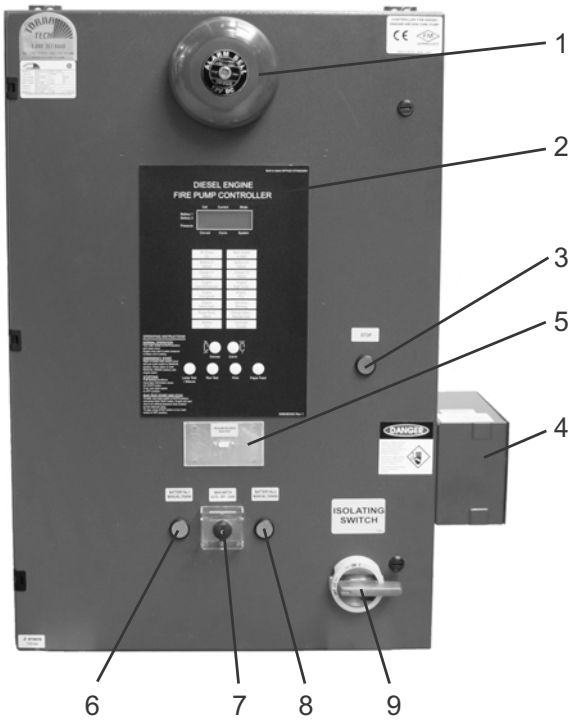
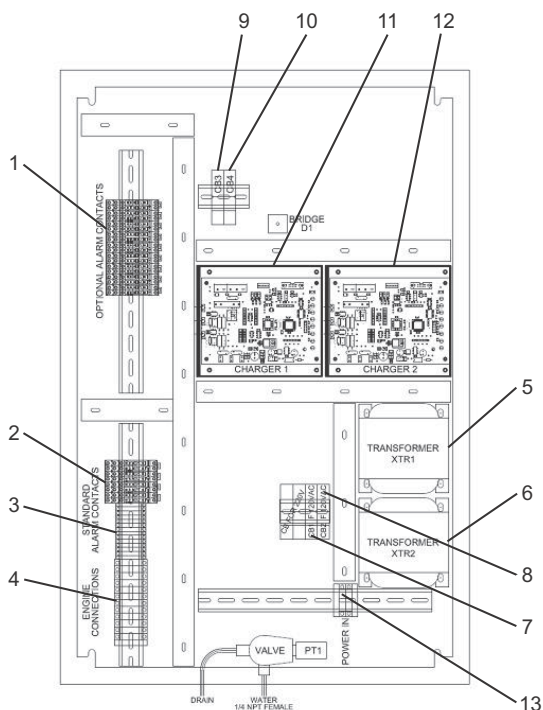

Fig. 10 Control cabinet
Fig. 12 Internal components of controller
The controller is placed in a control cabinet mounted on the base frame. The control cabinet can also be delivered separately for wall or floor mounting. The controller is operated by means of the control panel and the switches on the cabinet door. See figures 10 and 11. The control cabinet supplies the engine with the power required for starting and operating the engine. The controller therefore has two battery chargers to keep the engine batteries charged. The two batteries are connected to individual battery chargers and power the control circuit. The control circuit is protected by two circuit breakers (CB3 and CB4, fig. 12, pos. 9 and 10) in the top right of the cabinet. The circuit breakers are not monitored and must both be in position "ON".
The internal components of the controller are shown in fig.12.
The operating elements are placed on the cabinet door and control panel. See fig. 10.
Isolating switch A1 (fig. 10, pos. 9)
Main switch A2 (fig. 10, pos. 7)
[BATTERY No. 1 MANUAL CRANK] A3 and [BATTERY No. 2 MANUAL CRANK] A4 (fig. 10, pos. 6 and 8)
[STOP] A5 (fig. 10, pos. 3)